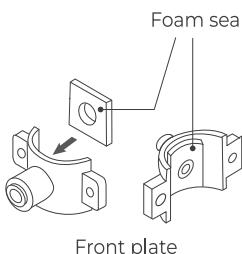

Figure 8
1. Stick the foam seal on the front plate of the drain saddle. Ensure that the hole of the foam seal is aligned with the hole of the front plate (**Figure 8**).